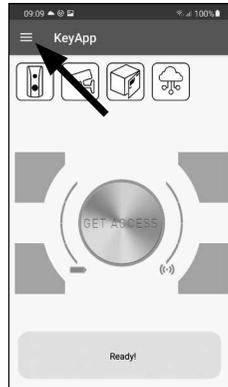

Fig. 15
① Once you have successfully registered the ENTRY 7711 Keypad PIN in the KeyApp, you can start connecting the keypad and a previously installed secuENTRY cylinder. Open the main menu (Fig. 15).